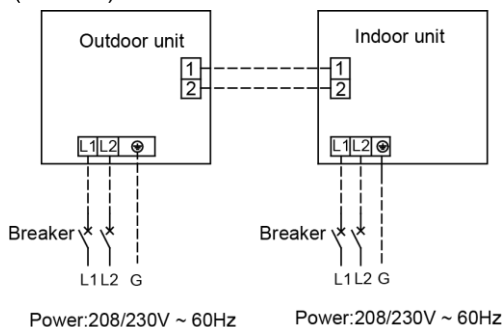

Fig. 4.29
①.	The power cord and the wire of the fresh air valve are high-voltage, while the communication cord and connection wire of the wired controller are low-voltage. They should run separately against electromagnetic interference.
②.	The high-voltage and low-voltage lines should pass through the rubber rings at different electric box covers.
③.	Do not bundle the connection wire of the wired controller and the communication cord together, or arrange them in parallel, otherwise improper operation would occur.
④.	The high-voltage and low-voltage lines should be fixed separately and securely, with internal big clamps for the former and small clamps for the latter.
⑤.	Tighten the indoor/outdoor connection cord and power cord respectively on the terminal boards with screws. Faulty connection may cause a fire.
⑥.	If the indoor unit connection cord (to the outdoor unit) and power supply are wired incorrectly, the air conditioner may be damaged.
⑦.	Connect the indoor unit connection cord properly based on the corresponding marks as shown in Fig. 4.29.
⑧.	Ground both the indoor and outdoor units by attaching a ground wire.
⑨.	Unit shall be grounded in compliance with the applicable local and national codes.